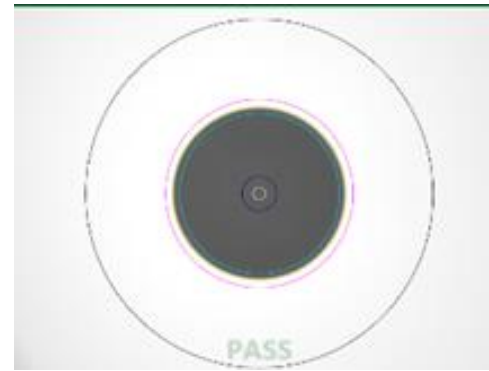

Figure 3: Image of Clean Fiber
- If a fiber stub (a darker circle on a lighter background as shown in figure 3) is detected, follow standard inspection and cleaning procedures. If you are unable to focus on a fiber end face, do not clean the port. The SFP contains a lens and cannot be cleaned.